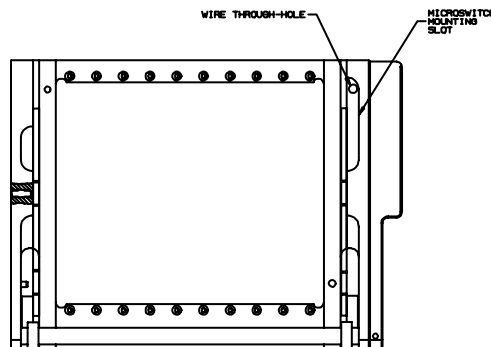

Figure 1. 10 Module Receiver
1. There are four slots machined into the receiver beside the two engagement slides that accept the ITA rollers. Locate the large slot along the top of the right engagement slide (Figure 1).
2. Place the Microswitch in the slot, feeding the wires through the hole provided (Figure 1).